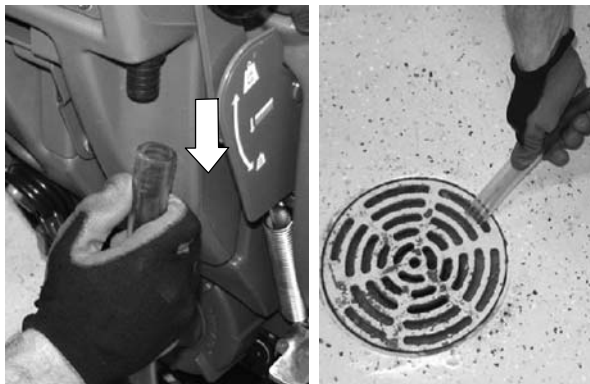

FIG. 28
1. To drain any remaining water from the solution tank, pull the solution tank level hose off the hose fitting as shown (Figure 28).